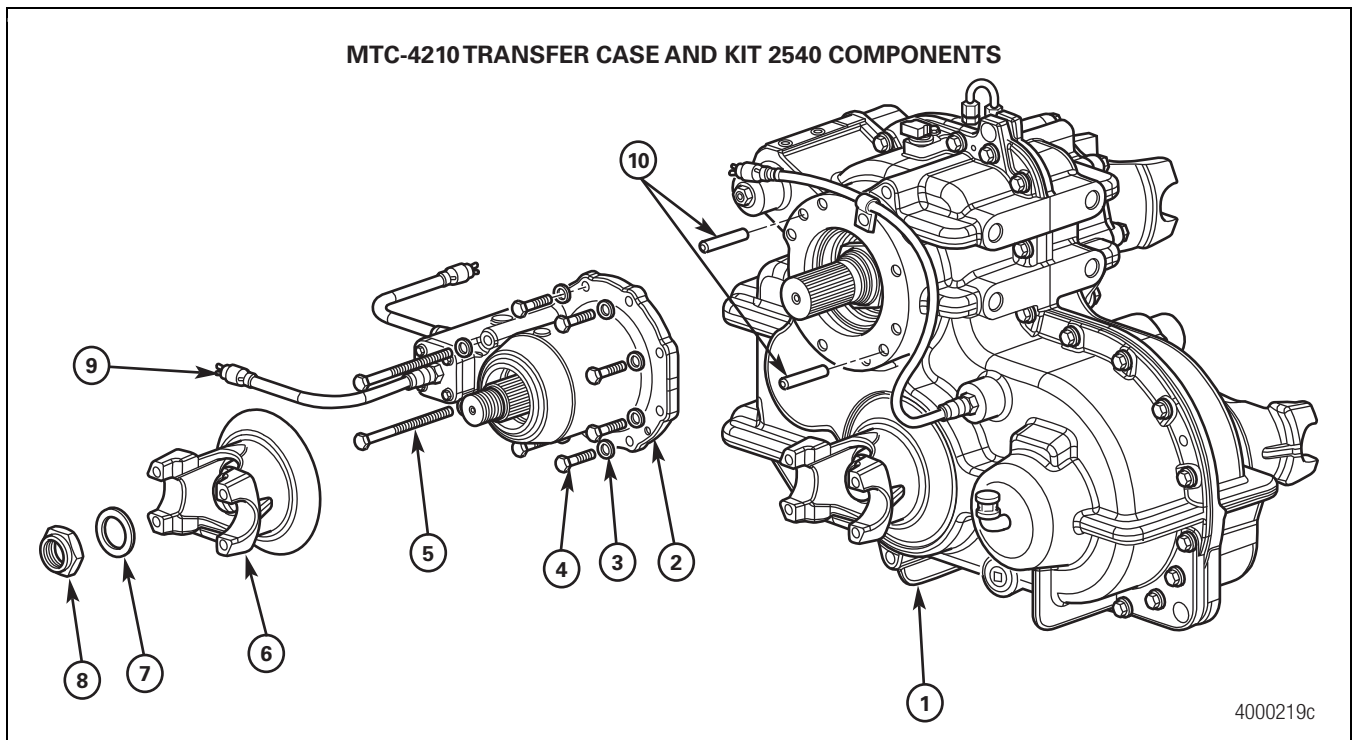

Figure 7.2
4. Remove the mounting bolts and washers that secure the rear-mounted pump housing. Figure 7.2.
1. Use a press and an applied press force of 500-1500 lbs (227-680 kg) to install a Meritor yoke, spline code RAI, onto the PTO shaft. Figure 7.2.
2. Apply a thin coating of Loctite® 518 gasket sealant to the entire PTO flange mounting surface. Figure 7.2.